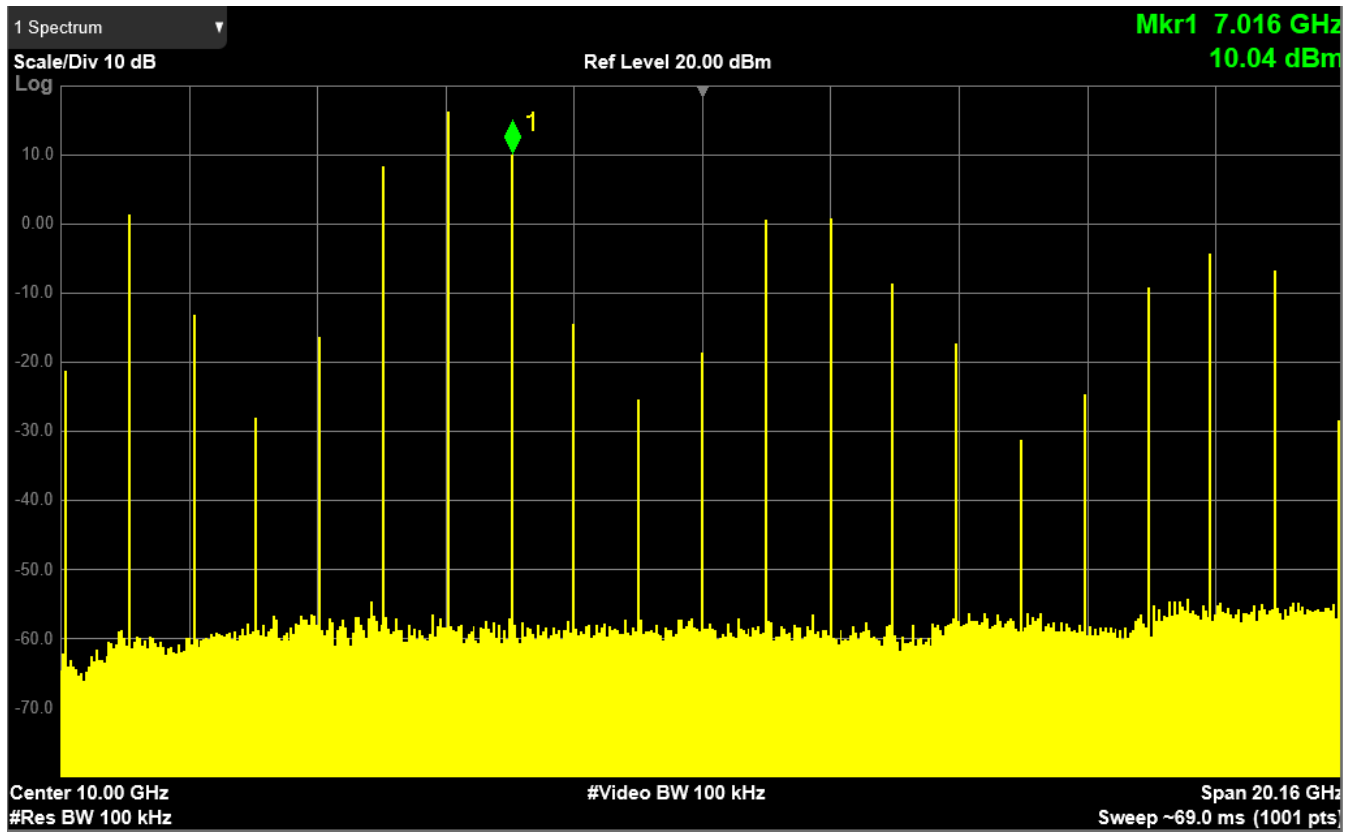

Figure 9. Reference Level 20.00dBm
3. You should see the 7GHz carrier on the spectrum analyzer (refer to the marker in Figure 9). LO leakage (6GHz), unwanted sideband, and harmonics will also be present. To suppress those, complete the following two steps.